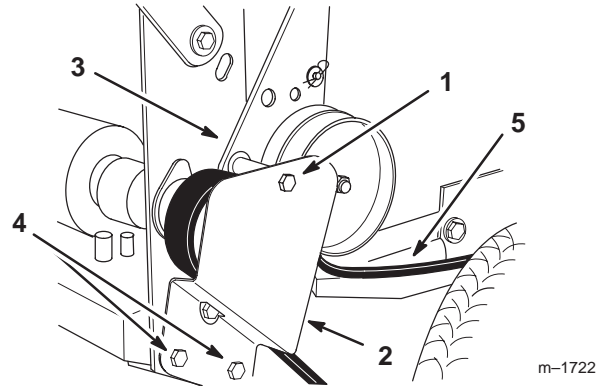

Figure 63
1. Remove the top capscrew securing idler support and idler bracket to rear frame (Fig. 63).
2. Loosen bottom two mounting screws enough to allow belt to pass between drive pulley and idler support (Fig. 63).
5. Install the top capscrew securing the idler support and idler bracket to the rear frame (Fig. 63).
6. Tighten the bottom two mounting screws enough to allow the belt to pass between the drive pulley and idler support (Fig. 63).